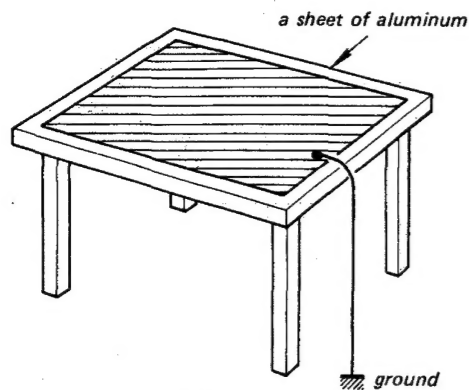

Fig. 2
2. Ground the work bench for static electricity. (See Fig. 2) (Place a sheet of aluminum onto the bench.)